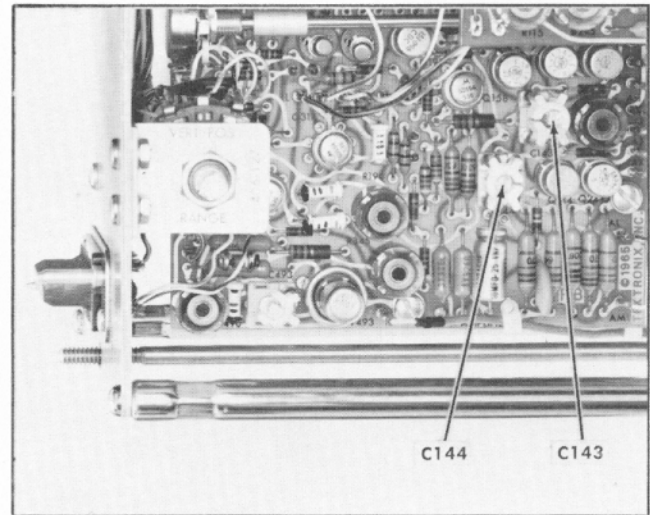
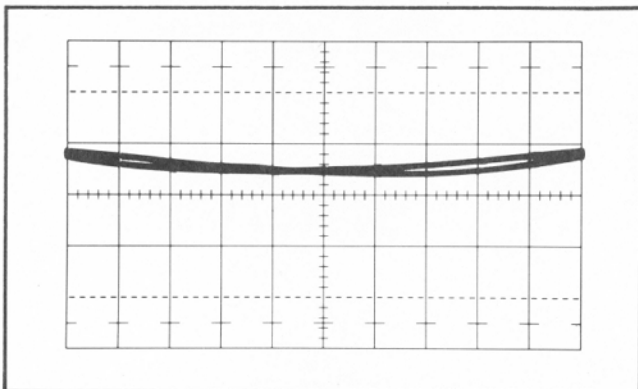

Fig. 6-30. Location of step 18 adjustments.
Fig. 6-29. Typical display obtained when C143 and C144 are adjusted properly at 100 kHz. Tilt and vertical deflection are within the 4-cm requirement.
b. Check the display. Tilt and vertical deflection should not exceed 4 cm overall (see Fig. 6-29). If excessive, adjust C143 and C144 (see Fig. 6-30) for minimum vertical deflection. These two adjustments interact. Adjustment C143 primarily affects the loop opening and C144 affects the loop tilt.